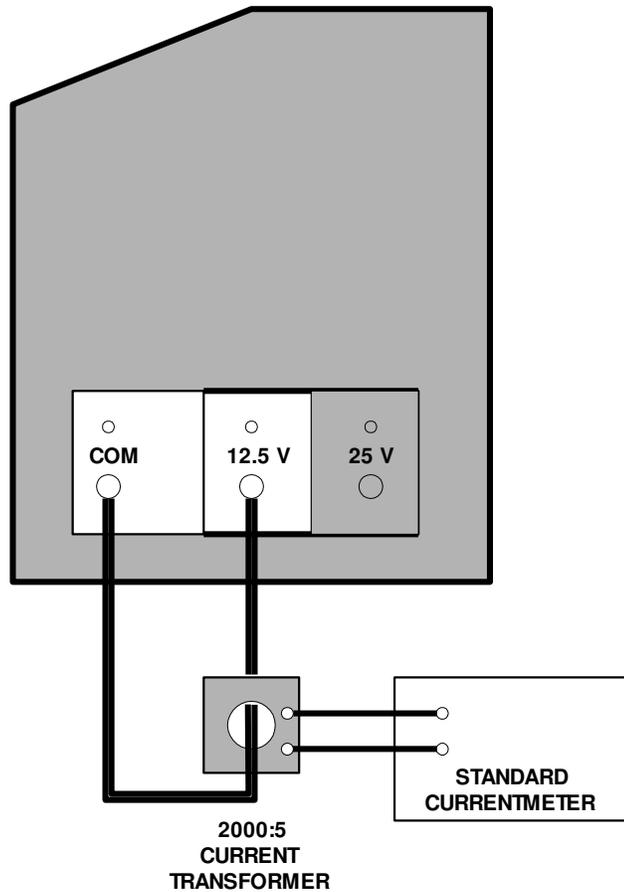

Figure 5-4. Currentmeter Calibration Set-up, 12.5 Volt Tap
1. Connect the test equipment to the Test Set as shown in Figure 5-4.
3. Turn the Raise Voltage control to increase the output until the standard currentmeter displays a value of 4 Amperes. The Current (A) meter on the display panel should read 1600 Amperes. (The 2000:5 current transformer will result in a reading on the standard currentmeter of $1/400^{\text{th}}$ of the value shown on the Current (A) display).
4. If the correct value is not shown on the Current (A) display, adjust calibration potentiometer R3 on the A5 circuit card assembly until the proper value is reached.